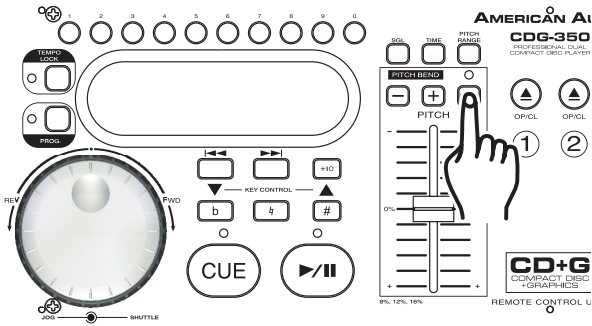

Figure 10
Using the Pitch Slider Percentage Selector (6): You may choose a pitch operating range at any time. To change the operating range be sure the pitch function is turned on, see figure 10. The pitch percentage can be changed between +/-8%, +/-12%, and +/-16%. 8% will allow the least amount of pitch manipulation and 16% will allow the most amount of pitch manipulation. To adjust the different values, press the *PITCH ON/OFF BUTTON (10)* and Tap on the *% BUTTON (6)* until your desired value is reached.